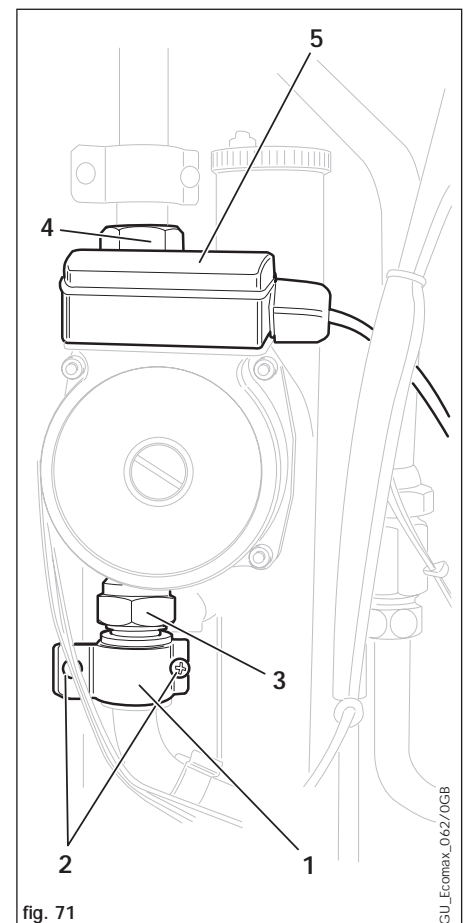

fig. 71
7.12 REPLACEMENT OF PUMP (FIG. 71)